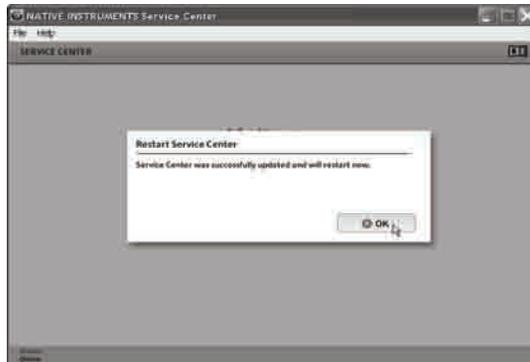

Figure 5.23
2. If the following message appears, click **OK**. (Figure 5.23)